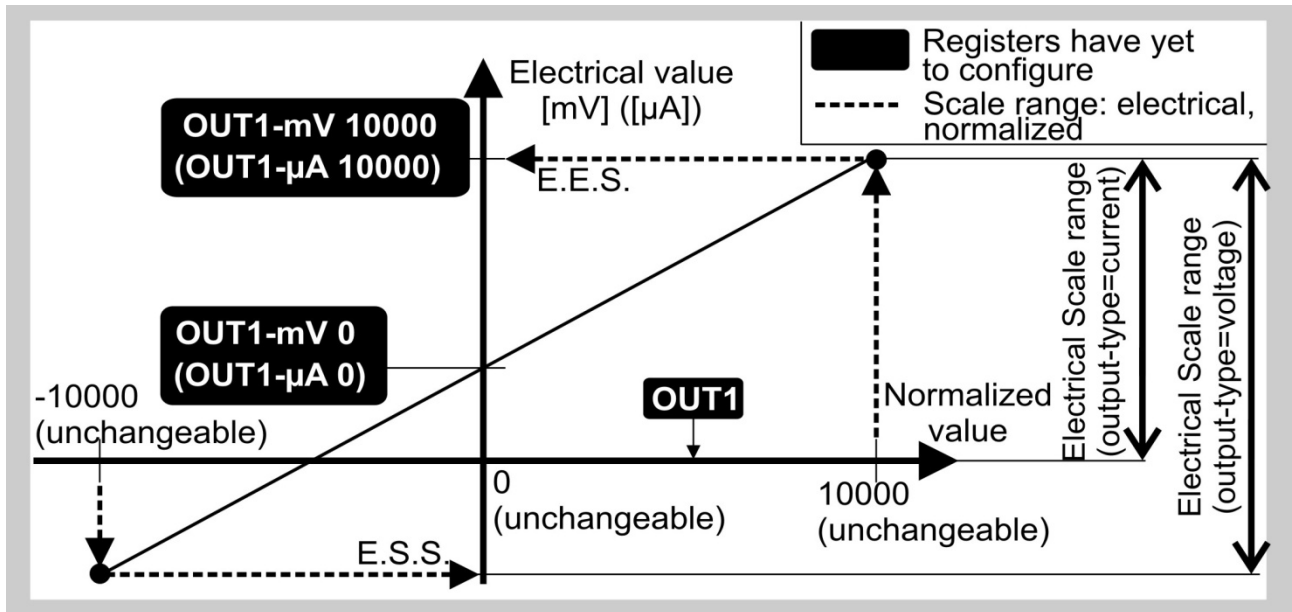

Fig.1 – Description of output configuration (step 1 and step 2)
- 1) configure the register “OUT1-mV 0” (“OUT1- μ A 0”) corresponding to the normalized value=0 and “OUT1-mV 10000” (“OUT1- μ A 10000”) corresponding to the normalized value=10000 (figure 1);
- 2) configure the register OUT1: it is the normalized value corresponding to the desired electrical value available at the screw terminals (mV or μ A) (figure 1);